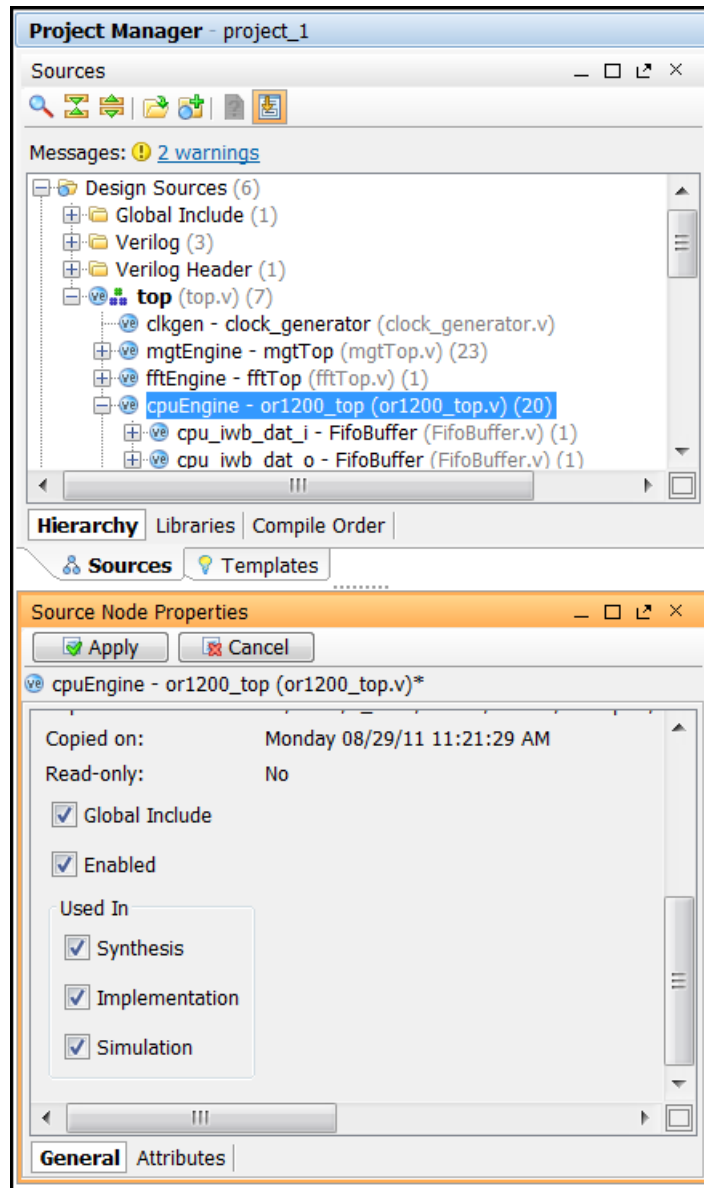

Figure 5: Source Node Properties Window
2. Select the **Set Global Include** command, or use the **Global Include** checkbox in the Source Node Properties window, as shown in Figure 5.